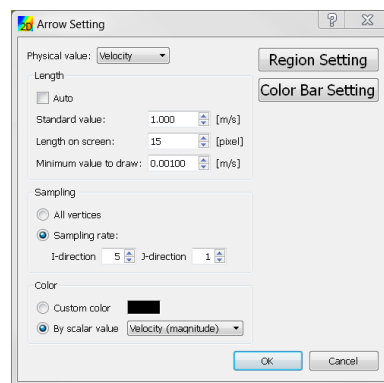
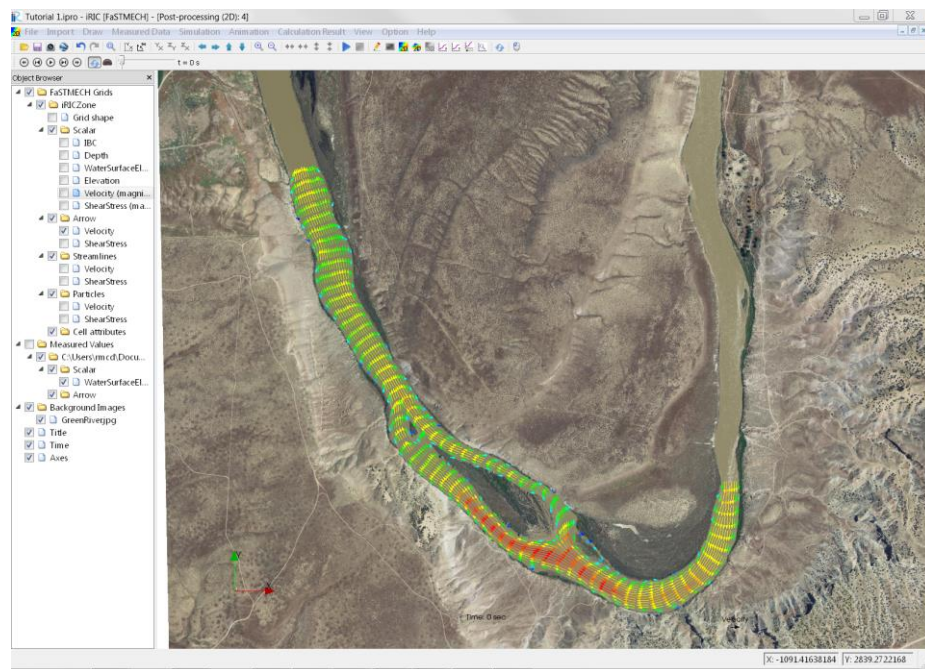

Figure 19. The Vector Attributes dialog.
Figure 20. A plot of velocity in the modeled reach represented as vectors. Vectors are color coded and scaled according to their magnitude.
- The default values for the vectors often need adjustment. From the **Menu Bar** select Draw ► Arrows to bring up the Vector Attributes dialog (Figure 19). The result is shown in Figure 20.